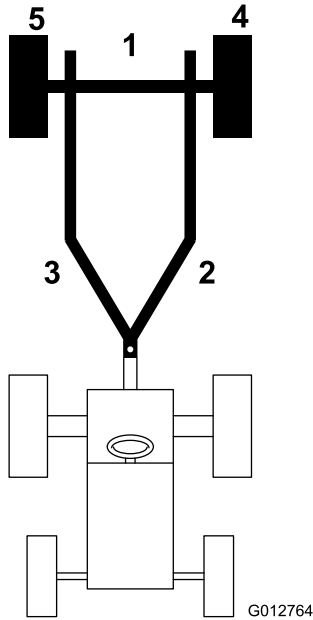

Figure 18
3. Push the control levers downward to lower the mowers with frame in motion to eliminate possibility of spinning tractor drive wheels on the turf causing turf damage. Use the diagram on top of the control panel as a guide to lowering mowers (Figure 18).